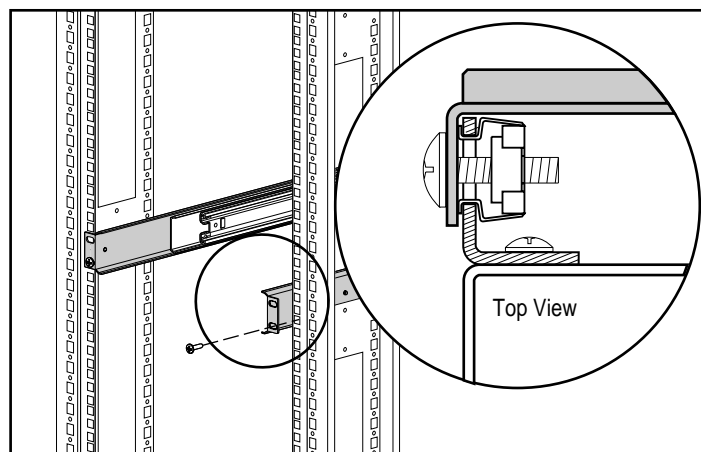

Figure 3-11. Cage nut and back of mounting bracket assembly installed
3. Secure the back end of the mounting bracket assembly to the back corner brace of the rack with one M6 x 1.0-12L Phillips screw through the bottom hole of the bracket and the cage nut, as shown in Figure 3-11.